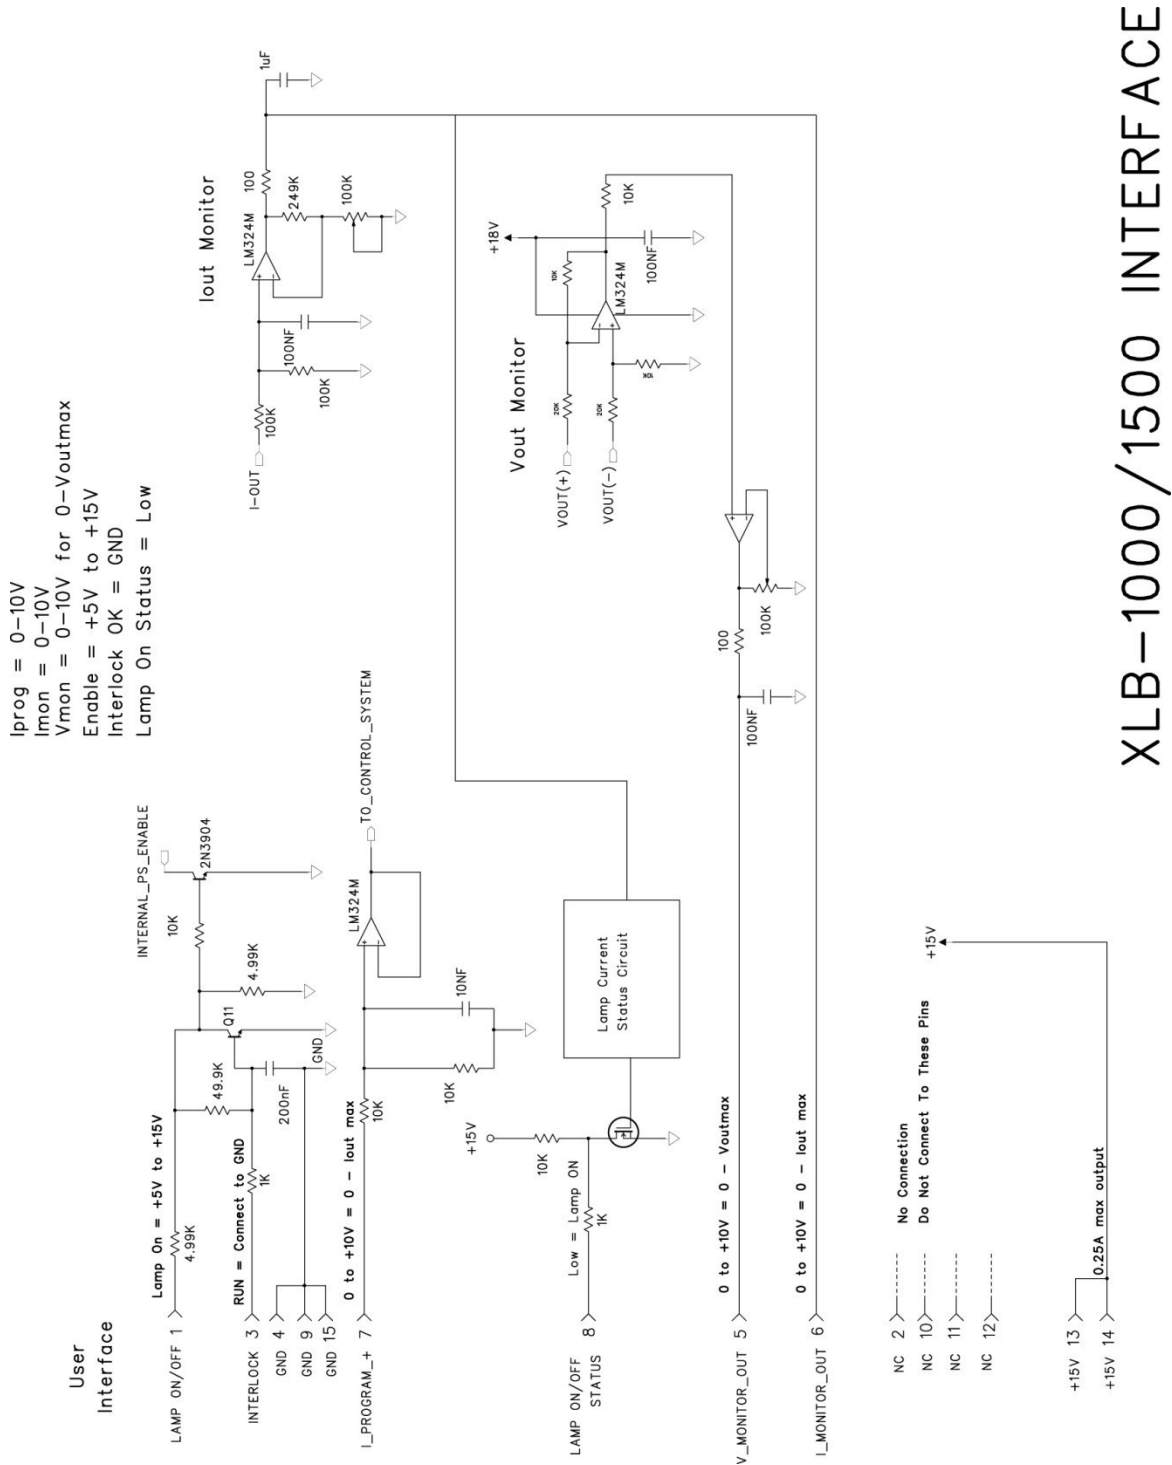
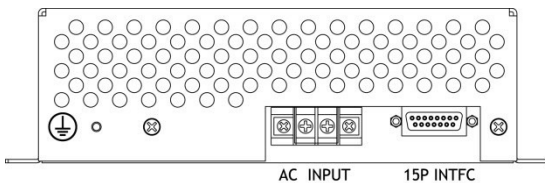

Figure 4
Figure 5
(Refer to Figure 4 XLB-1000/1500 Interface Schematic)
3. **Interface Connection:** Connect user system to Interface 15 pin D-sub connector shown in Figure 5. (Although the user interface is typically designed by the user, Lumina Power can provide any assistance necessary to modify interface program and monitor levels) See Table 1 and Figure 4 for description of XLB-1000/1500 Interface and the associated simplified interface schematic.
- a. **AC Input Power Connection:** Input power is as shown below in Table 2. Connect AC power connections to power supply input power terminals. Refer to Figure 5 for location of AC Input.